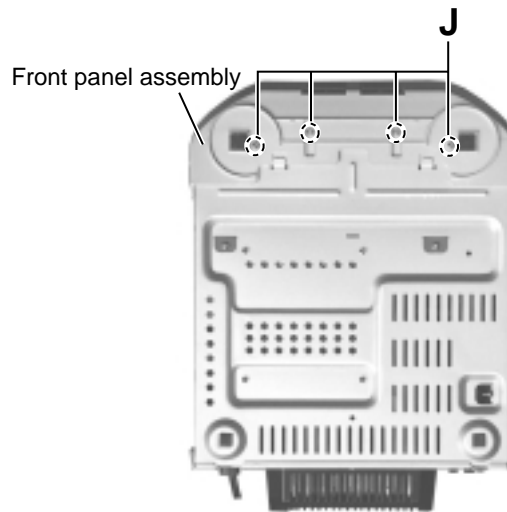

Fig.8
■ Removing the front panel assembly (See Fig.8 to 10)